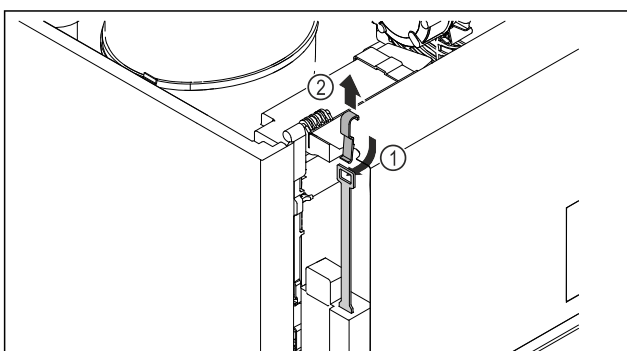

Fig. 211
- ▶ Insert the emergency release key *Fig. 211 (1)* from above, hook it onto the lock and pull it upwards *Fig. 211 (2)*.